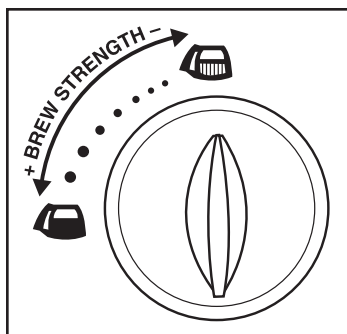

Figure 2
1. Be sure Power Select Button is in the OFF (O) position.
6. Measure one level tablespoon of drip or regular grind coffee for each cup of coffee desired. You may choose to brew your coffee with a stronger brew strength. To do so, adjust the Brew Strength Control Dial located on the top of the unit. The illustration indicates a stronger or lighter brew strength. (See Figure 2)